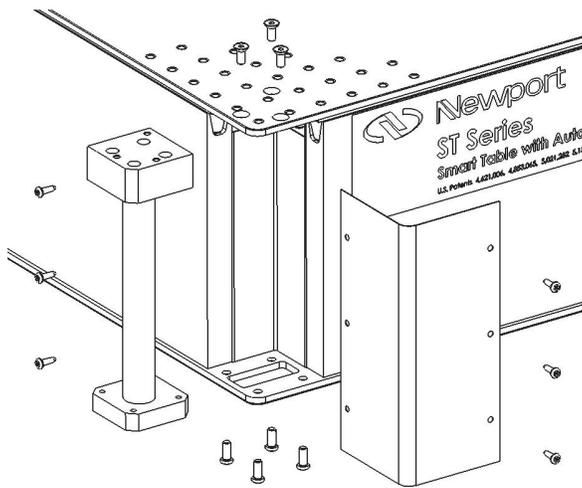

Figure 3: ST-UT or ST-UT2 Series table with iQ damping upgrade
4. Install the damper by inserting it into the position that the spacer was in (See figure 3 below). Orient the iQ damper so the mounting holes line up.